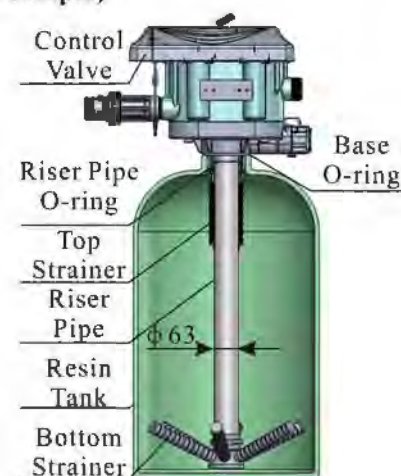

Figure 1-1
- ① The filter or softener should be located close to drain.
- ② Ensure the unit is installed in enough space for operating and maintenance.
- ③ Brine tank need to be close to softener.
- ④ The unit should be kept away the heater, and not be exposed outdoor. Sunshine or rain will cause the system damage.
- ⑤ Please avoid to install the system in one acid/alkaline, magnetic or strong vibration circumstance, because above factors will cause the system disorder.
- ⑥ Do not install the filter or softener, drain pipeline in circumstance which temperature may drop below 5℃, or above 45℃.
- ⑦ One place is recommended to install the system which cause the minimum loss in case of water leaking.
① Install control valve
a. As the Figure 1-1 shows, select the riser pipe with 63mm OD, glue the riser pipe to the bottom strainer and put it into the mineral tank, cut off the exceeding tube out of tank top opening. Plug the riser tube in case of mineral entering.